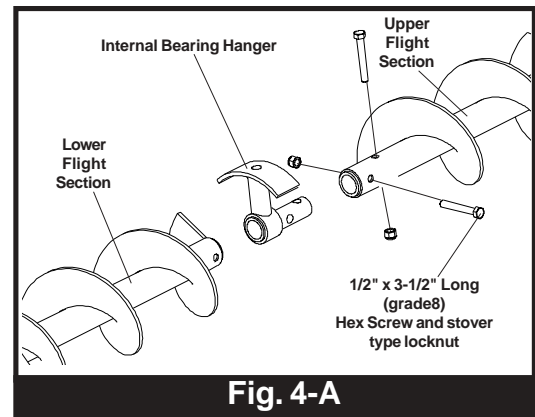

Fig. 4-A
- B. The internal bearing hanger should be placed over the end of the flight connecting stub on the middle auger section. Next, slide the flight section out of the head or upper middle auger housing section. Connect the middle and head flight sections together. Use two (2) 7/16" x 3" long (grade 8) hex head capscrews and stover type locknuts. (See Fig. 4-A.)